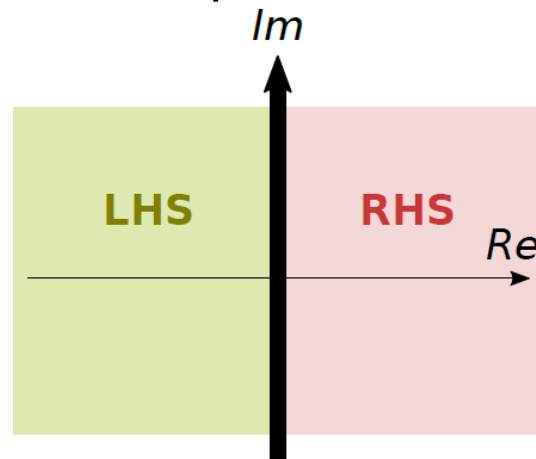

Figure 3: Partition of the s plane.
- Throughout this course, we will assume the following partition of the s-plane (Fig. 3) :